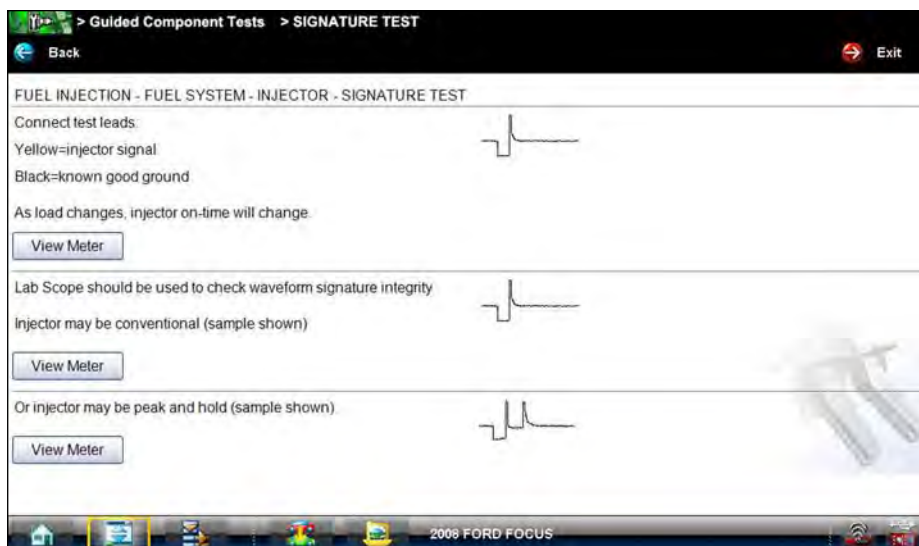

Figure 6-5 Sample Test screen
3. Select a test option and the test screen displays (Figure 6-5).